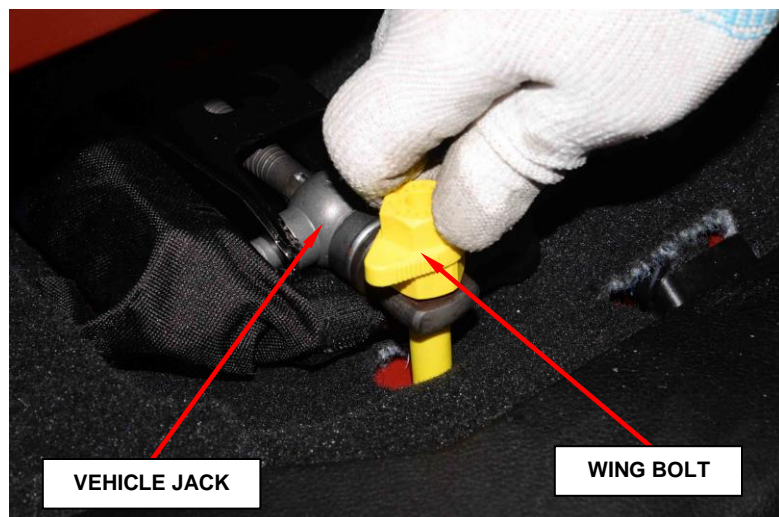

Figure 2 – Wing Bolt Removal
2. To remove the jack and tools, turn the wing bolt counterclockwise then remove the wing bolt and slide the assembly out from under the seat (Figure 2).
12. Strap the storage bag unto the jack and insert the assembly under the passenger seat, making sure to align the jack end to the wing bolt (Figure 2).